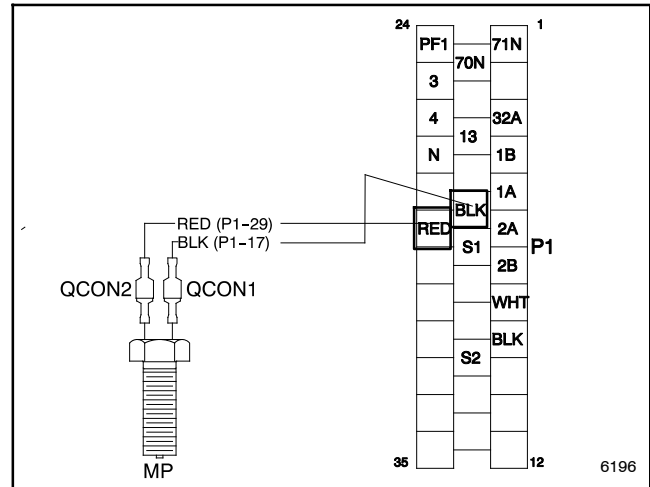

Figure 6-23 Magnetic Pickup Leads
- c. Measure the electrical resistance through the magnetic pickup at QCON1 and QCON2. See Figure 6-23.
5. Verify the operation of the magnetic pickup by connecting a voltmeter to the magnetic pickup leads. See Figure 6-23. If the air gap is correct, the voltage should be 1.75 volts AC minimum during engine cranking.